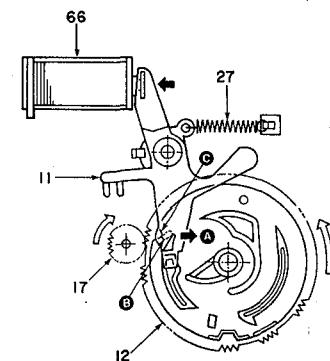

Fig. 2 (Rear side view)
1. STOP to PLAY/REC Operation (See Fig. 2 to Fig. 5)
- 1-2. By a signal from the microprocessor, the CAPSTAN MOTOR (65) rotates, and at the same time, the SOLENOID (66) turns ON.
- 1-3. PLAY ARM (11) swings in the direction of the arrow **A**.
- 1-4. The pin **B** of PLAY ARM is released from the stopper section **C** of the CAM GEAR (12).
- 1-5. The CAM GEAR rotates slightly and engages with the gear of the FLYWHEEL (17).